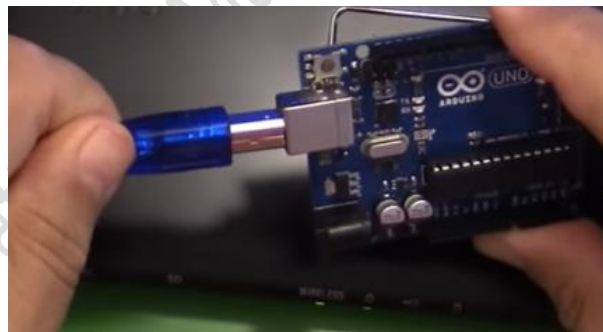
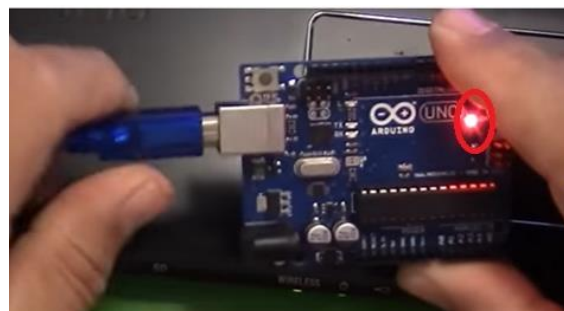

Fig.2: Connecting the USB plug to the board
Fig.3: LED blinking on the Arduino board after connecting the USB cable
Step 2: After connecting the board, an LED on the Arduino board may start blinking. This indicates that the board is receiving power and is functioning properly. Fig.2 and Fig.3 show the connection of the USB cable to the board.